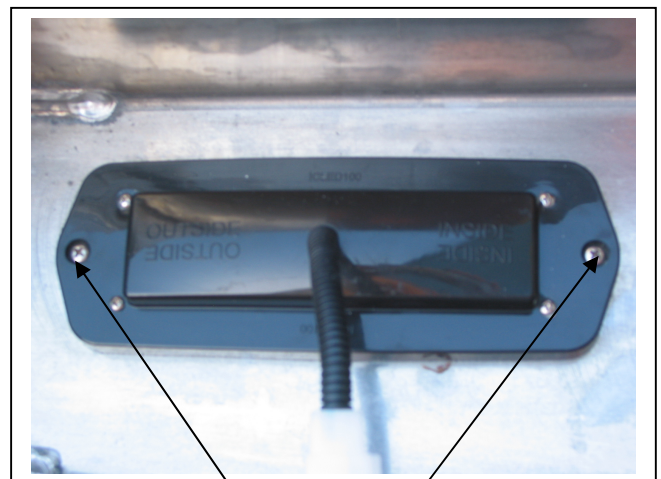

Figure 6
6. Fit ECB LED indicator / park lights (supplied) into protection bar as per instructions supplied with the LED indicator kit. **NOTE: Ensure park light is to outside. See figure 6.**